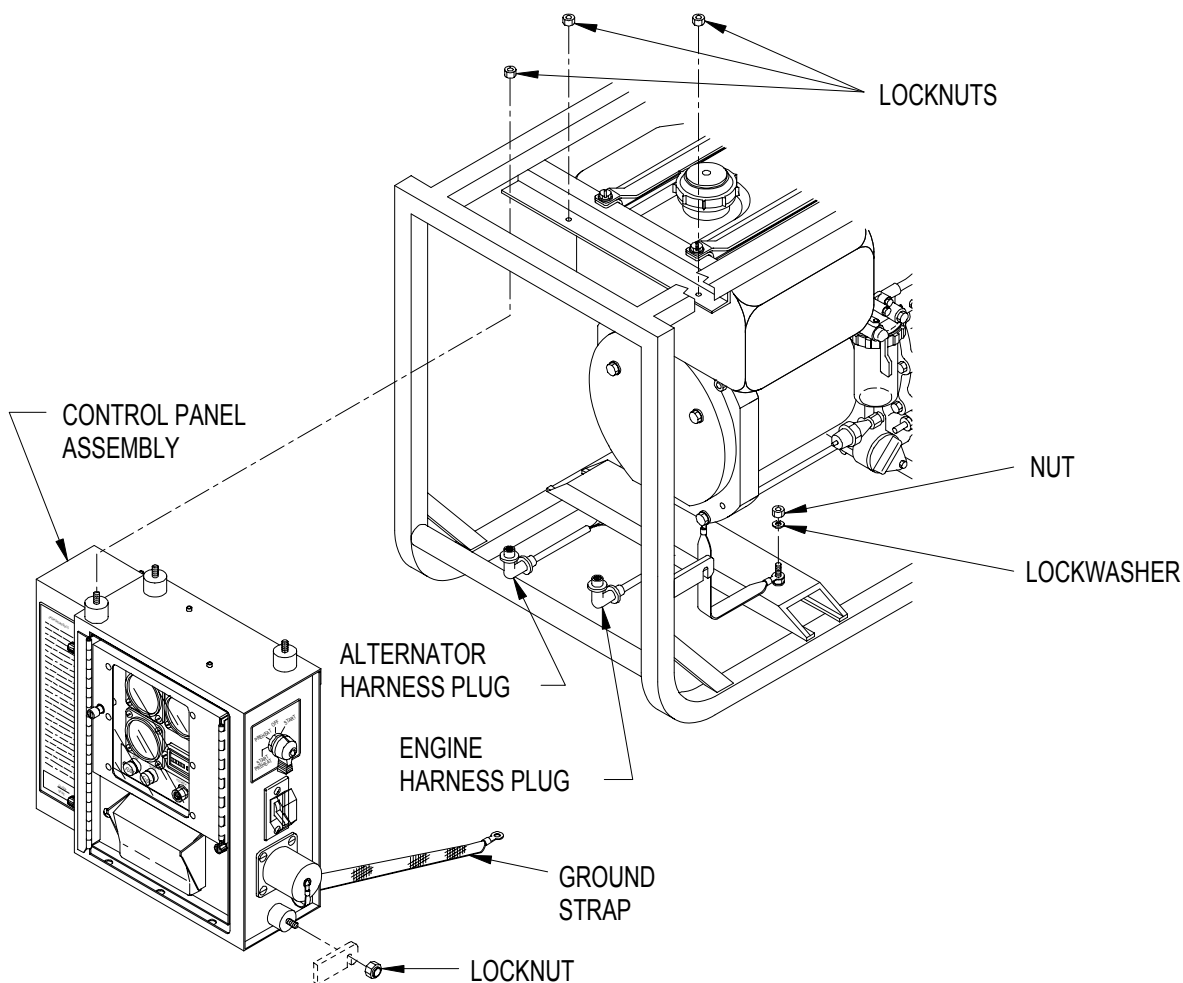

Figure 4-19. Control Panel Assembly
- (1) Shut down generator set.
- (2) Unscrew and disconnect engine and alternator harness plugs (Figure 4-19) from receptacles at bottom of control panel assembly.
- (3) Remove nut, lockwasher, and ground strap from frame.
- (4) Remove LOP engine shutdown cable from control panel assembly, refer to paragraph 4.50.b., step 5 only.
- (5) Remove locknuts that hold control panel assembly to frame.
- (6) Remove control panel assembly from frame.
- (1) Position control panel assembly (Figure 4-19) in frame.